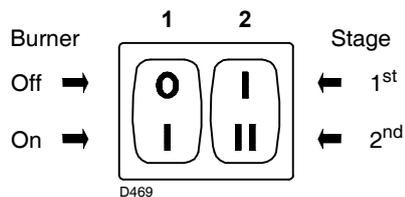
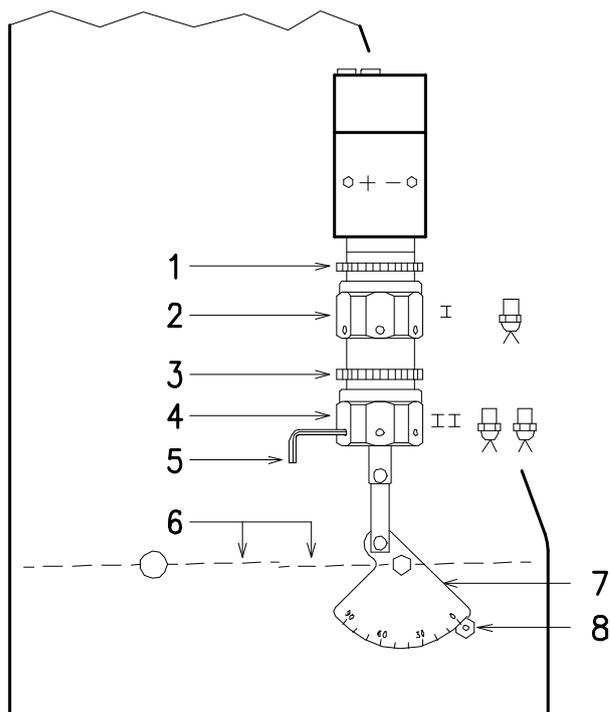

Fig. 21
Fig. 24
Set switch 1)(Fig. 21) to “ON”.
Keep the burner operating at 1st stage by setting the switch 2) (Fig. 21) to the 1st stage position.
Opening of the air gate valves 6)(Fig. 24) must be adjusted in proportion to the selected nozzle: the index 8) must be aligned with the notch indicated on the graduated sector 7).
Set switch 2)(Fig. 21) to the 2nd stage position and adjust the air gate valve 6)(Fig. 24) by turning the hex element 4), after having loosened the ring nut 3).
In order to facilitate adjustment of hex elements 2) and 4)(Fig. 24), use a 3 mm Allen key 5).